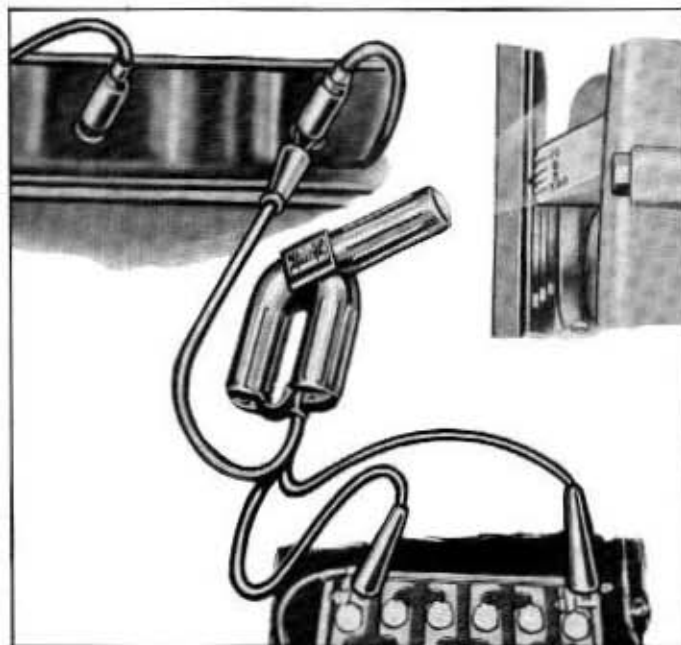

Fig. 9-43—Ignition Timing—(61CM-6403)
3. Connect secondary (blue) lead of Power Timing Light to adaptor. Connect red primary lead to positive terminal of battery. Connect black primary lead to negative terminal of battery. See figure 9-43. *Be sure timing light is designed to operate on 12 volts before making any connections.*